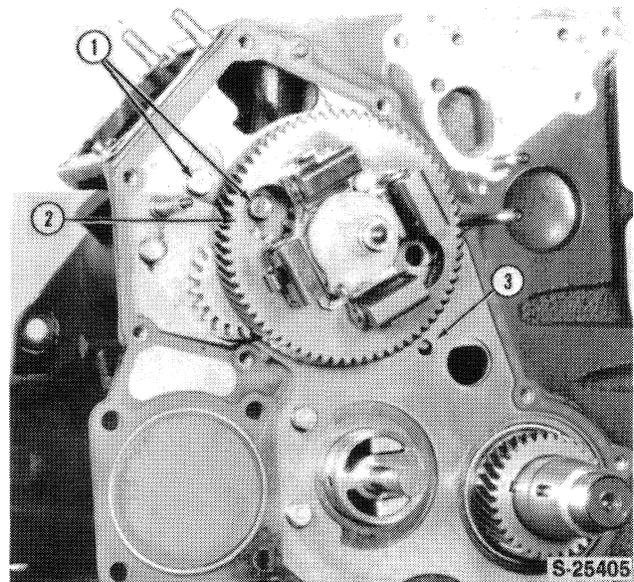

Figure 51
2. Remove the bolts (1) from the plate and pull the camshaft (2) and governor out as an assembly, Figure 51.
3. Remove the engine front plate (3), Figure 51.